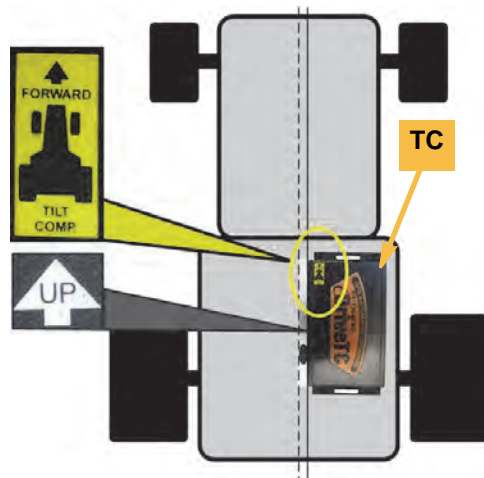

Figure 1a: ECU mounting location
- a. Through its end flanges, install the ECU **TC** on a level surface in the machine's cab. The unit must be 'UP' (see label), parallel to the fore/aft centerline of the machine, and pointing forward as indicated by the yellow label (Figure 1a). (The power switch and cable connectors will be inward with the unit installed on the right side of the cab.)
- a. Drill a 9/32" hole 3½" from the front edge of ECU mounting bracket **EJ** in line with the front outer hole (Figure 1a inset).
- b. Place bracket **EJ** on the floor to the right of the driver's seat with its one-inch tabs toward the seat. Set the bracket parallel to the machine's fore/aft centerline with (Figure 1a):
Figure 1a with inset: Preparing ECU mounting bracket and mounting location